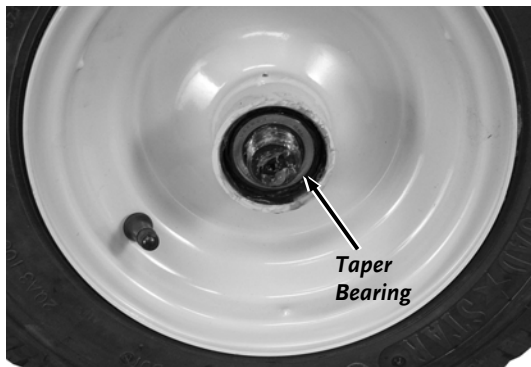

Figure 37
5. Pull the Wheel assembly and Taper Bearing from The Axle (**Figure 37**).